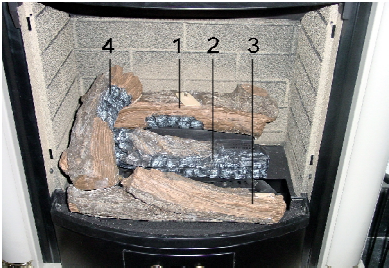

Figure 3
- Insert the pinhole on the upper part of log 4 into the pin on the left side of log 1. Place the lower part on the flat roof at the left side of log 3 (Figure 3).